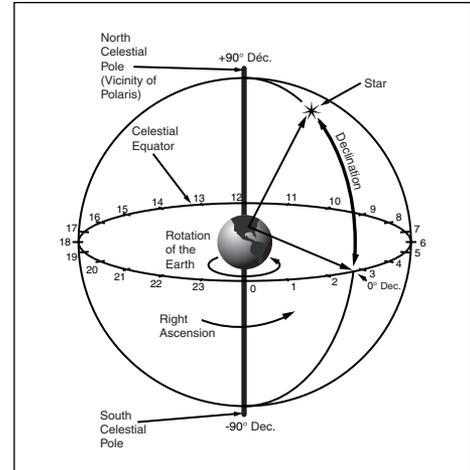

Fig. 8: Celestial Sphere.
The celestial map also contains two poles and an equator just like a map of the Earth. The celestial poles are defined as those two points where the Earth's North and South poles, if extended to infinity, would cross the celestial sphere. Thus, the North Celestial Pole (see **Fig. 8**) is that point in the sky where the North Pole intersects the celestial sphere. The North Star, Polaris, is located very near the North Celestial Pole. The celestial equator is a projection of the Earth's equator onto the celestial sphere.
■ **Right Ascension (R.A.):** This celestial version of longitude is measured in units of hours (hr), minutes (min), and seconds (sec) on a 24-hour "clock" (similar to how Earth's time zones are determined by longitude lines). The "zero" line was arbitrarily chosen to pass through the constellation Pegasus, a sort of cosmic Greenwich meridian. R.A. coordinates range from 0hr 0min 0sec to 23hr 59min 59sec. There are 24 primary lines of R.A., located at 15-degree intervals along the celestial equator. Objects located further and further East of the zero R.A. grid line (0hr 0min 0sec) carry higher R.A. coordinates. See **Fig. 8**.
■ **Declination (Dec.):** This celestial version of latitude is measured in degrees, arc-minutes, and arc-seconds (*e.g.*, 15° 27' 33"). Dec. locations North of the celestial equator are indicated with a plus (+) sign (*e.g.*, the Dec. of the North celestial pole is +90°). Dec. locations South of the celestial equator are indicated with a minus (–) sign (*e.g.*, the Dec. of the South celestial pole is –90°). Any point on the celestial equator (such as the constellations of Orion, Virgo, and Aquarius) is said to have a Declination of zero, shown as 0° 0' 0." See **Fig. 8**.